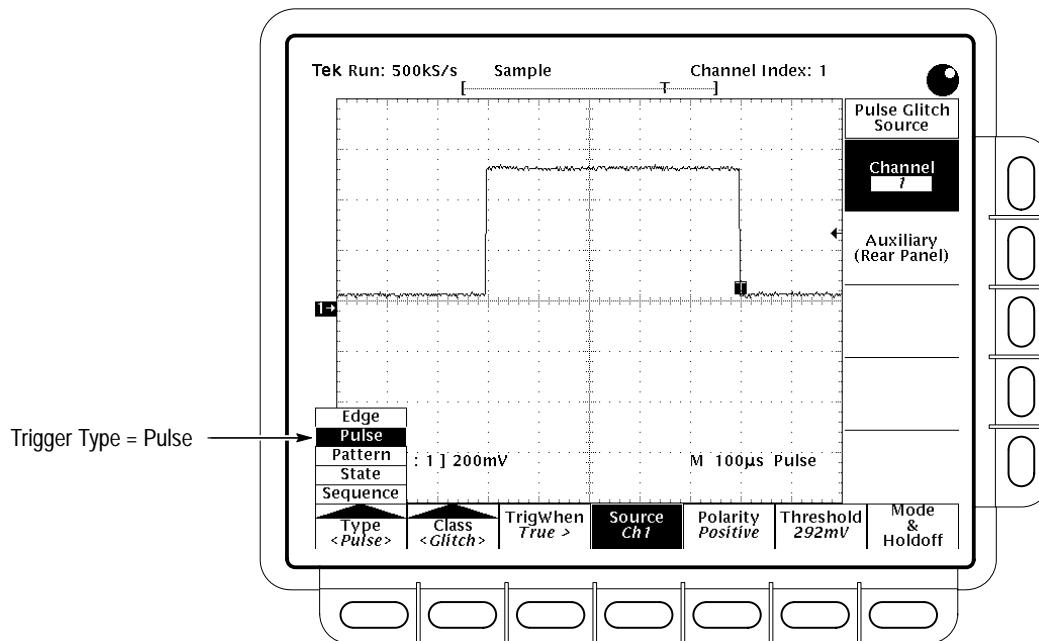

Figure 3-67: Pulse Trigger Menu
**Select Pulse Triggering** Press **TRIGGER MENU** → **Type** (main) → **Pulse** (pop-up). (See Figure 3-67.)